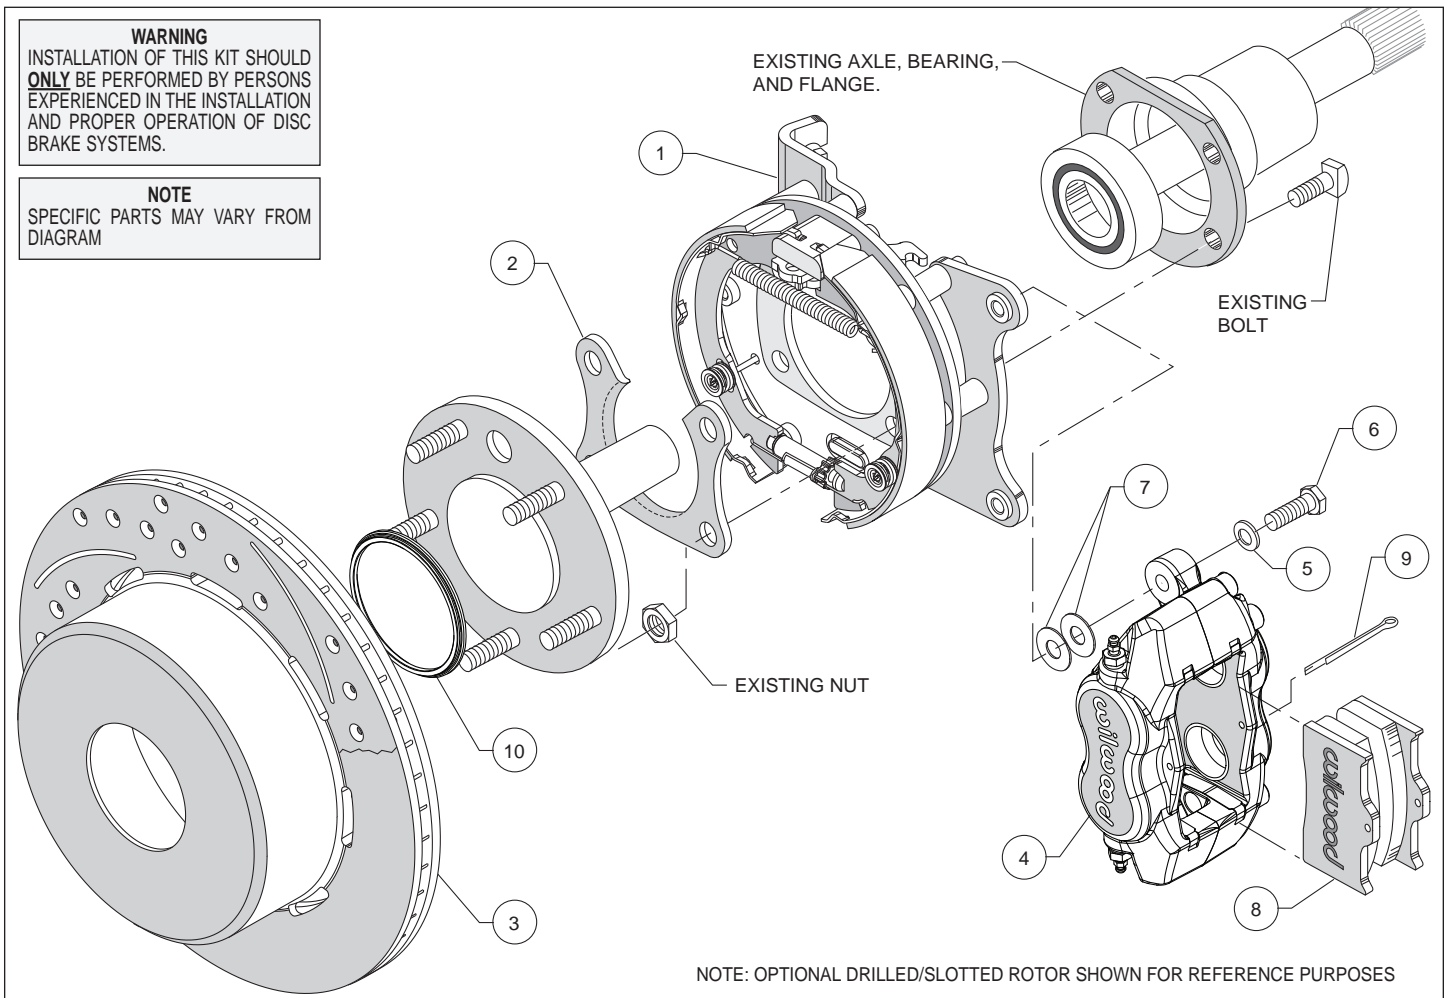
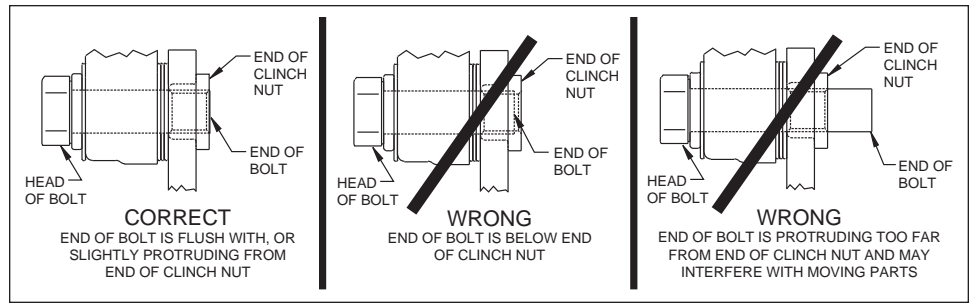

Figure 1. Typical Installation Configuration
Figure 5. Clinch Nut Engagement Diagram
Assembly Instructions (numbers in parenthesis refer to the parts list, and Figure 1 on the preceding pages): **CAUTION:** All mounting bolts must fully engage clinch nuts. Be sure to check that all bolts are either flush or protruding through flanged side of clinch nut after shimming, Figure 5.
- Orient the bracket assembly (1) as shown in Figure 1 and Photo 1 and slide it onto the axle. Insert the axle and bracket into the axle housing. Ensure that the bracket assembly backing plate fits flush against the axle housing flange.
- Install the bearing retainer (2) with the opening pointing upward and the lip facing inward (toward the bearing), as shown in Figures 1 and 4, and Photo 2. Secure retainer and bracket assembly to the axle housing flange using the Original Equipment Manufacturer (OEM) bolts and nuts, Figure 1. Apply red *Loctite*® 271 to the OEM bolt threads and torque to OEM specifications.
•Slide the rotor registration adapter (10) onto the axle register on the axle flange with the smaller O.D. facing toward the rotor/hat (3), Photo 3. Align the correct hole pattern in the rotor/hat with the stud pattern on the axle flange and slide into place, Figure 1 and Photo 4. **NOTE:** The rotor/hat must fit flush against the axle flange or excessive rotor run out may result. Install three lug nuts (finger tight) to keep the rotor/hat assembly in place while continuing with the installation. **NOTE:** Some OEM and after market axles come with stud sizes larger than 0.50" diameter. Verify stud size and have a qualified machine shop drill the bolt circle of the hat/rotor to the correct stud size, if necessary.
•**NOTE:** Please reference the caution statement at the beginning of the assembly instructions. Mount the caliper (4) onto the caliper mounting bracket (1) using bolts (6) and washers (5), as shown in Figure 1. Initially place two .035" thick shims (7) on each bolt between the caliper and the bracket, Photo 5. Temporarily tighten the mounting bolts and view the rotor (3) through the top opening of the caliper. The rotor should be centered in the caliper, Photo 6. If not, adjust by adding or subtracting shims between the bracket and the caliper. Always use the same amount of shims on each of the two mounting bolts. **NOTE:** The end of each bolt must be flush with or slightly protruding from the head of the clinch nut, as shown in Figure 5. If necessary place spare shims between washer (5) and caliper mounting ear to achieve the proper clinch nut engagement. Once the caliper alignment and clinch nut engagement are correct, remove the bolts one at a time, apply red *Loctite*® 271 to bolt threads, and torque to 40 ft-lb.